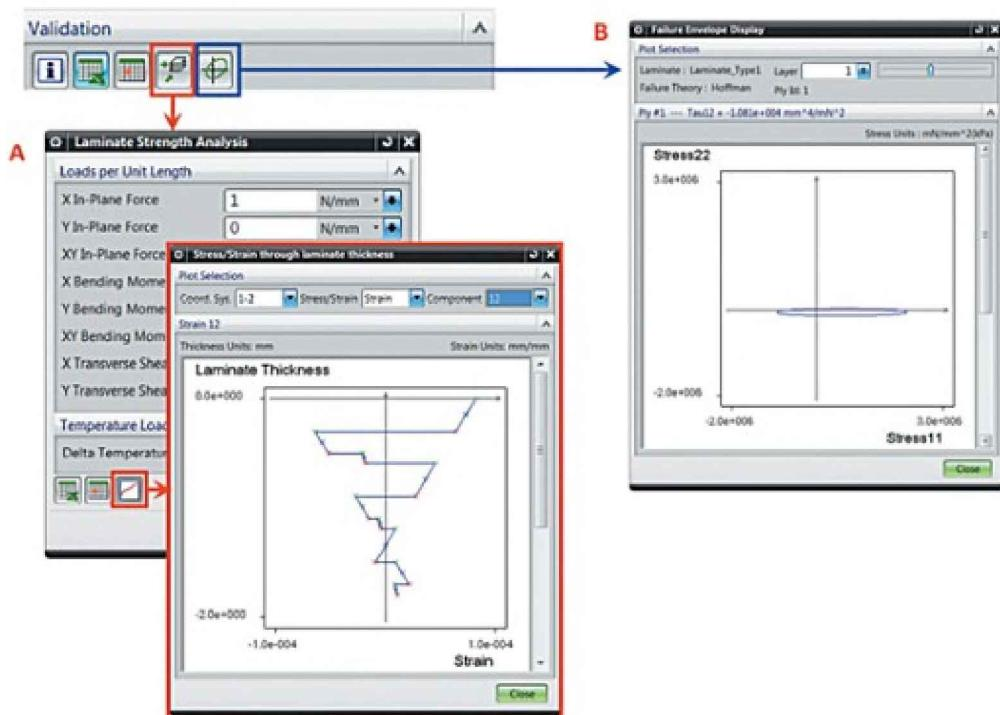

Figure 6.12. Evaluating the strength of a composite sample
- You can use the **Analyze Laminate Strength** command to evaluate the strength of the sample under *Loads per Unit Length* as specified in this command. The results are written into a spreadsheet, a CSV file, or as a stress and strain diagram along the thickness of the composite (Figure 6.12, A). The red dots correspond to the bottom of each ply, and the green dots correspond to top of each ply.
the carrying capacity of the composite sample as a strength curve for the specified ply (Figure 6.12, B). This curve reflects the limit stress of the sample at which failure occurs depending on the selected failure criterion and allowable stress for the material.